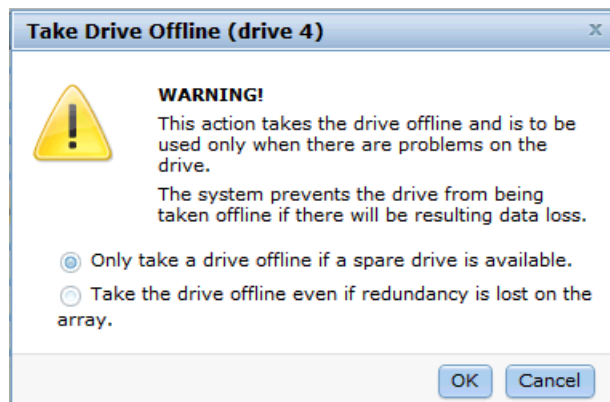

Figure 8-6 Take Drive Offline warning window
- ▶ The internal drives can be taken offline when there are problems on the drives by clicking **Take Offline** in the **Actions** drop-down menu. A confirmation window opens (Figure 8-6). IBM Flex System V7000 Storage Node prevents the drive from being taken offline if there might be data loss as a result. A drive should be taken offline only if a spare drive is available.